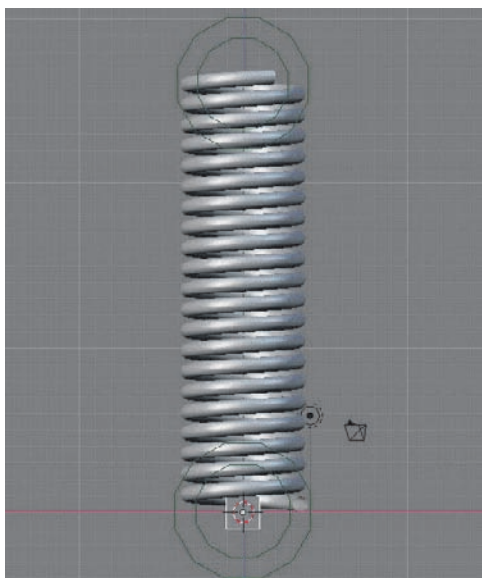
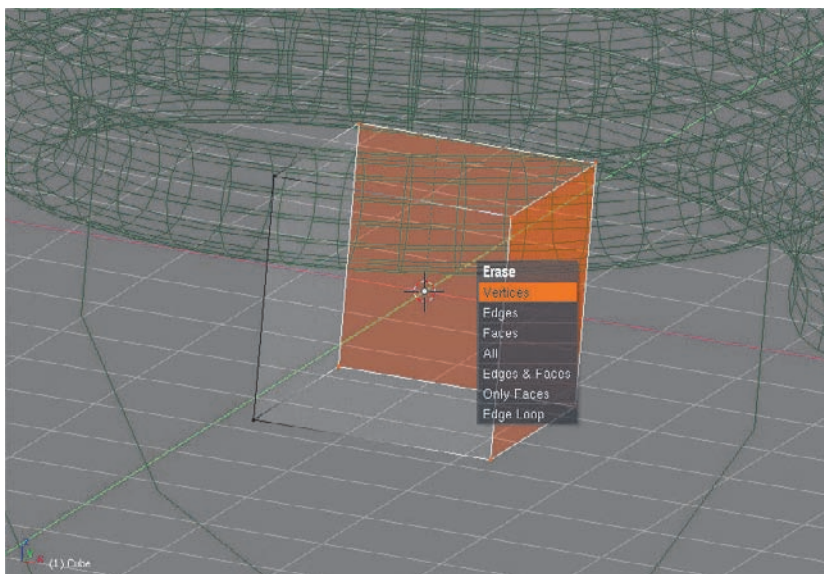

Figure 3.4 Add a mesh object.
Figure 3.5 Delete all but two vertices, connected by an edge.
1. The soft body object you’ll be using will be composed simply of two vertices and an edge. I’ve created this by adding a cube (see Figure 3.4) and deleting the six vertices (see Figure 3.5). Any simple mesh object will do for this.